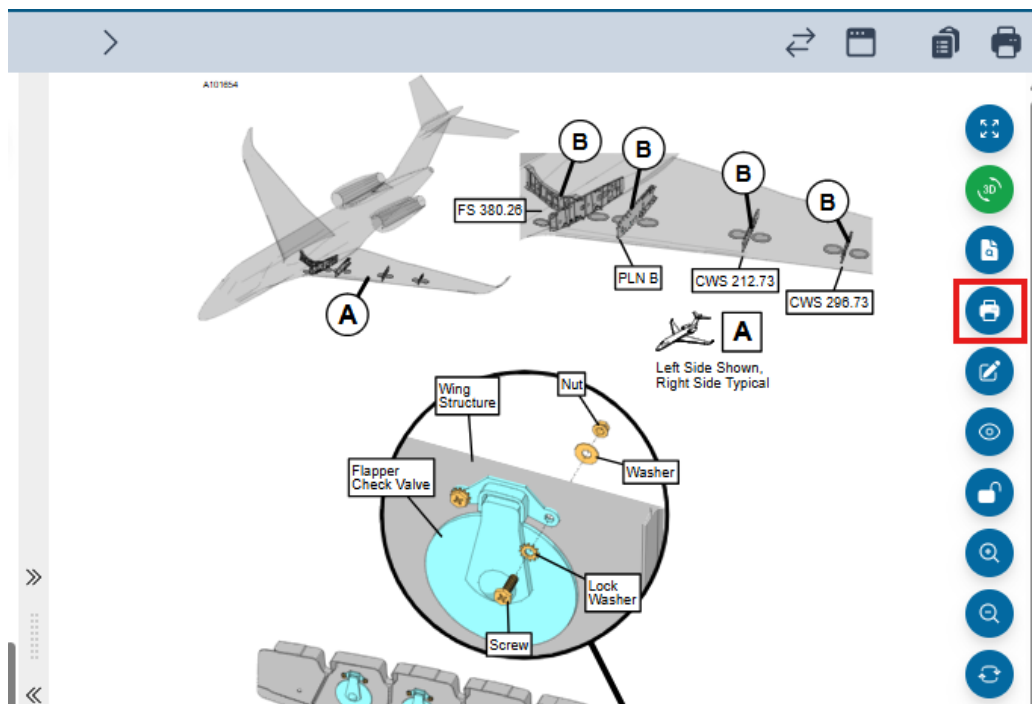

Figure 14 - Print Current Image Zoom/Wire Highlight Option
1. To print the image currently in view in the Graphic Frame in its current state (for example, if it is zoomed in, it will print as a zoomed image), do the steps that follow (Refer to Figure 14):
2. To print wiring diagrams with wires highlighted, do the steps that follow (Refer to Figure 14):